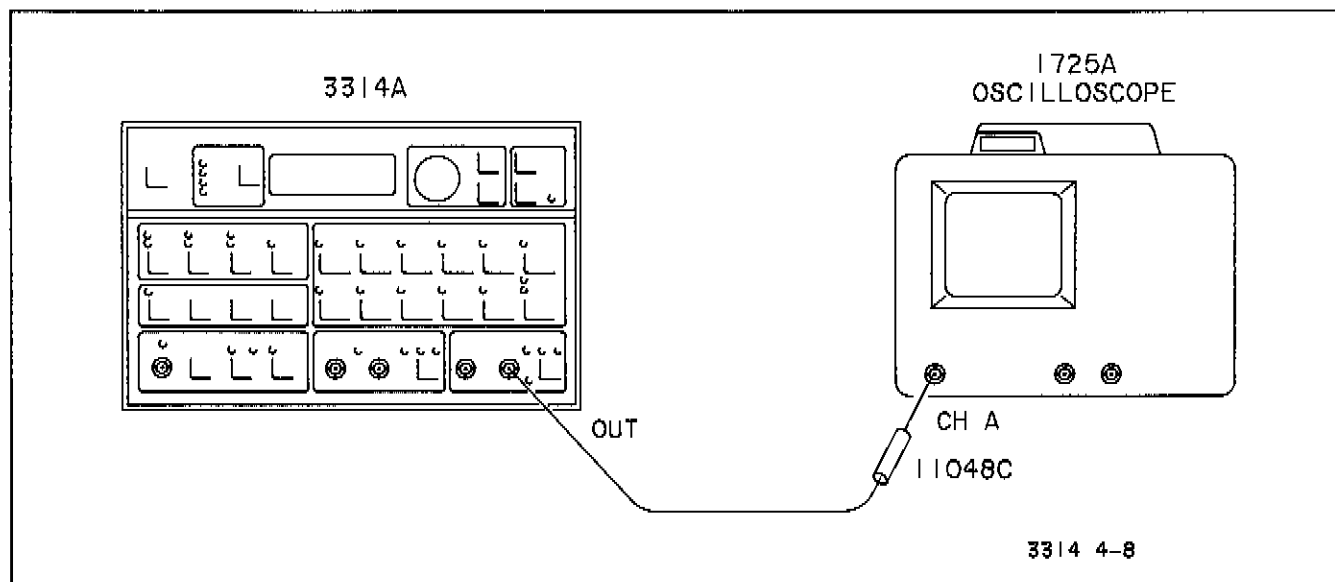

Figure 4-8. Square Wave Rise Time and Overshoot
- D. Connect the 3314A to the Oscilloscope as shown in Figure 4-8.